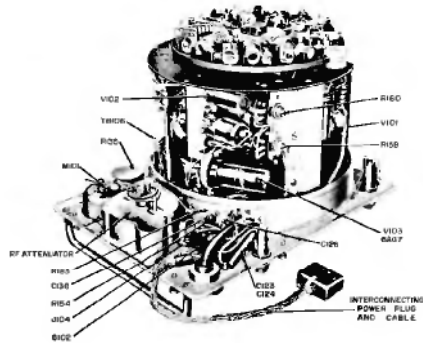

Figure 7-4. Bridge Assembly Components
19. PERCENT MODULATION METER CALIBRATION. (See Figure 7-4.)